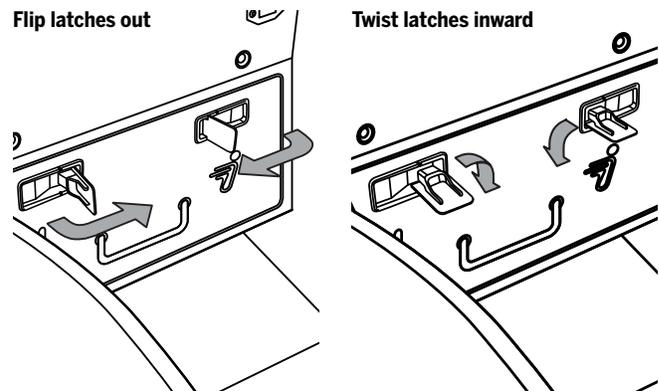

Figure 1: Flip Out and Twist the Battery Module Latches
2. Flip out and twist the latches as shown in **Figure 1**.